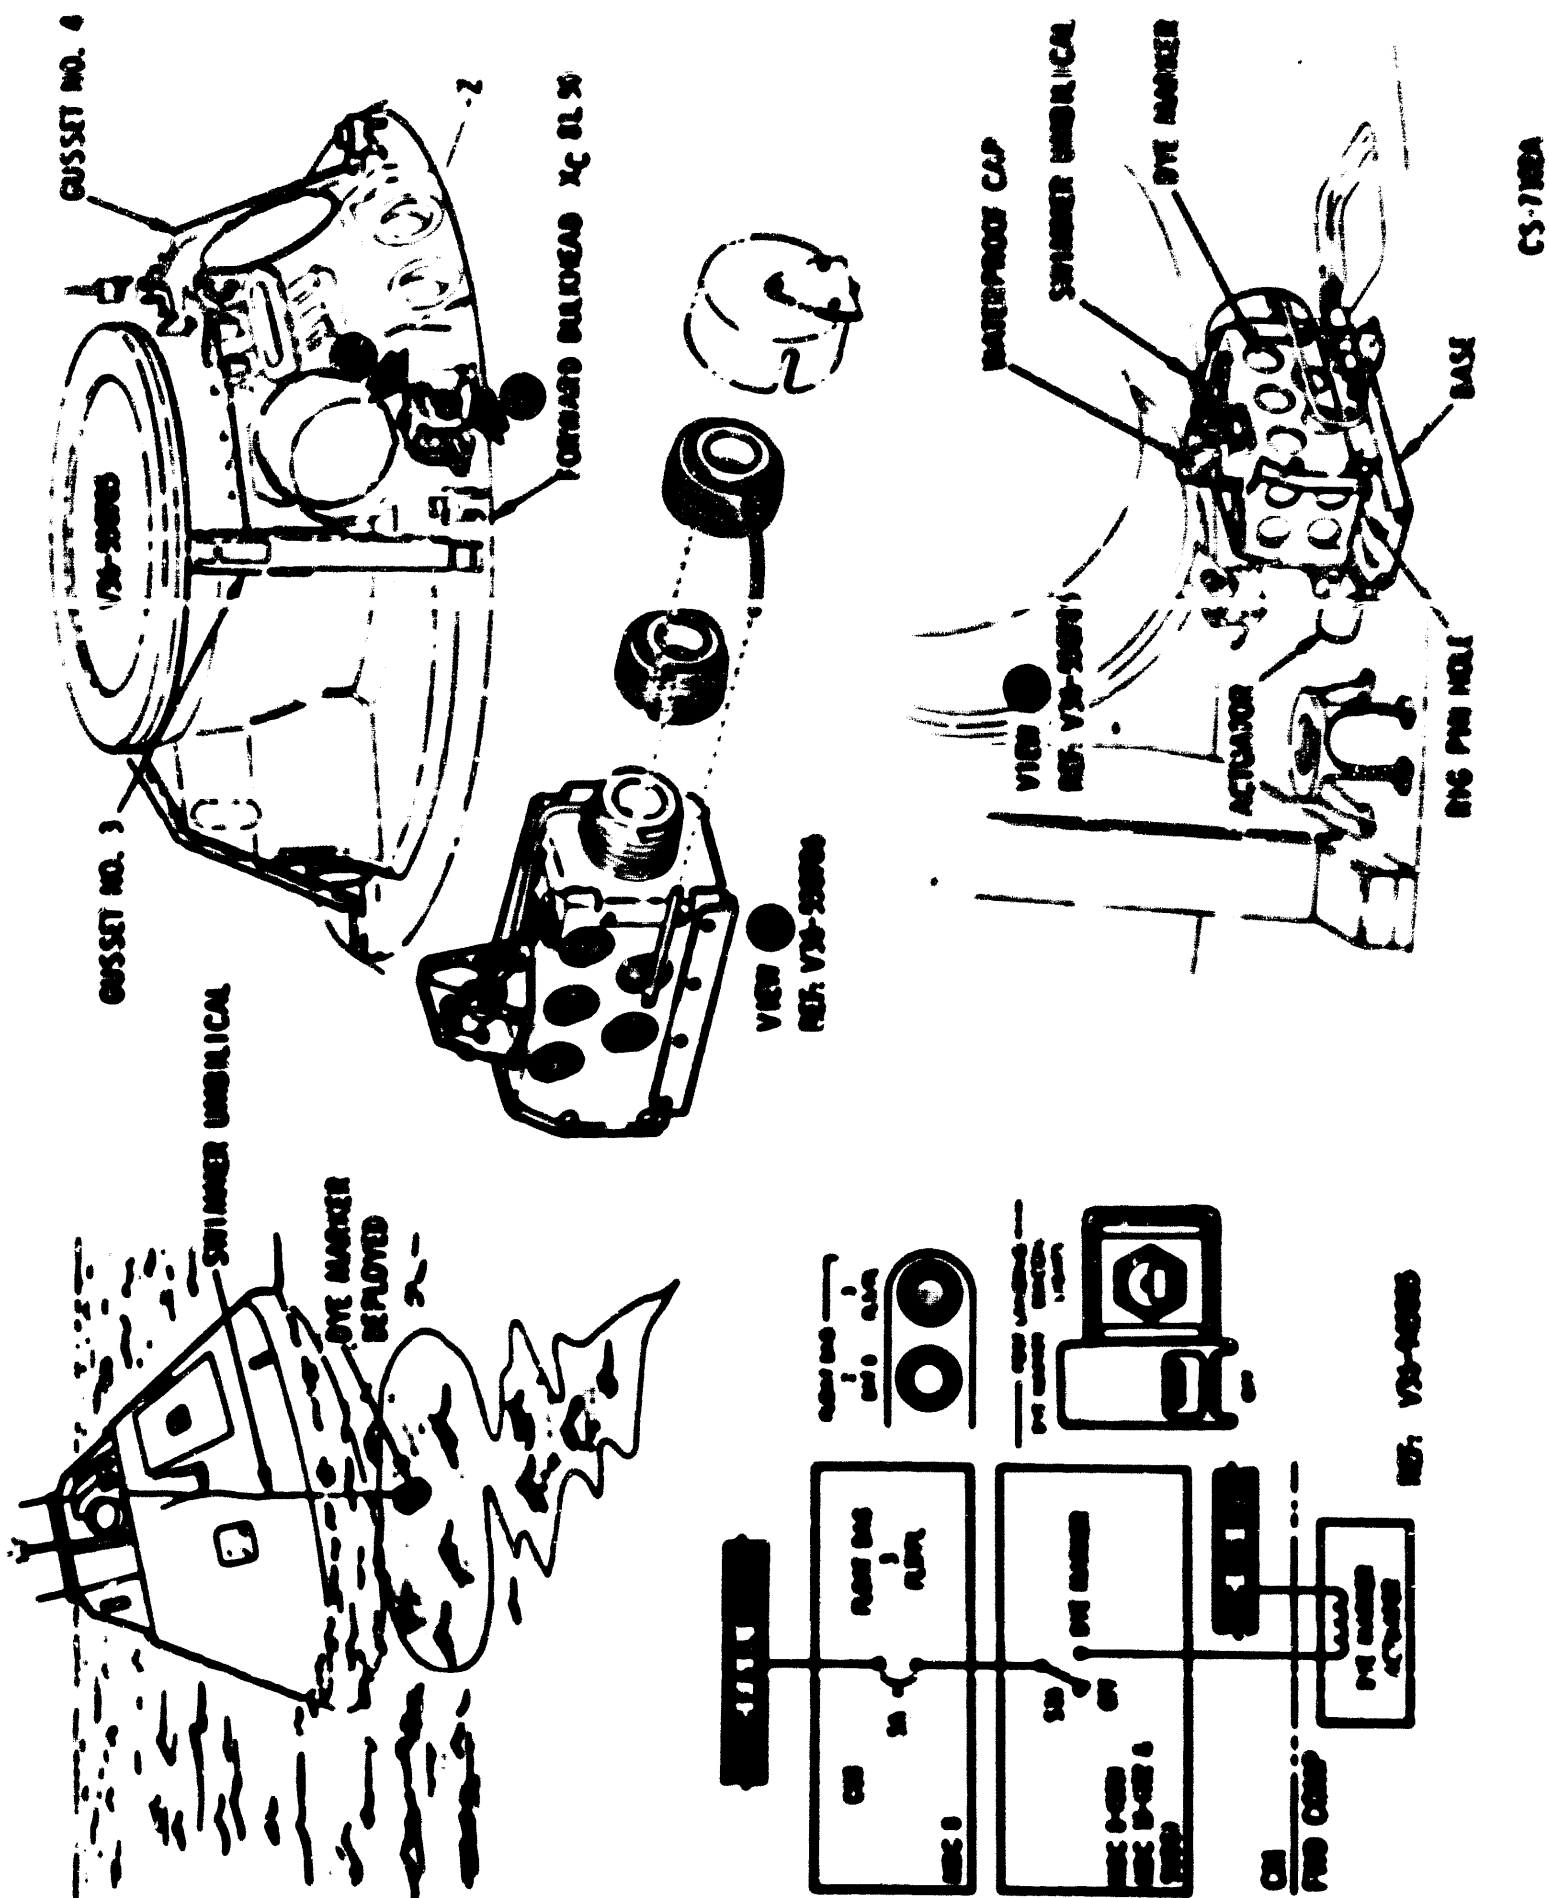

Figure 2.12-50. Swimmer Umbilical and Dye Marker
2.12.9.2 Swimmer Umbilical and Dye Marker (Figure 2.12-50).